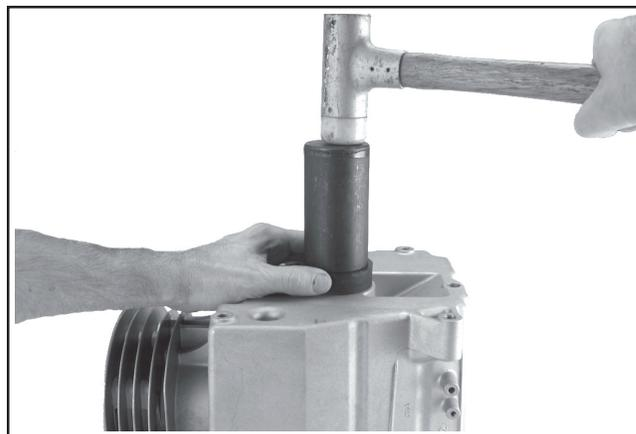

Figure 10-1. Installing PTO Side Oil Seal.
1. Apply a small amount of oil to the outside diameter and lip of the PTO side oil seal before installing. Use a seal driver and install to a depth of **5.5 mm (0.216 in.)** into the crankcase. See Figures 10-1 and 10-2.